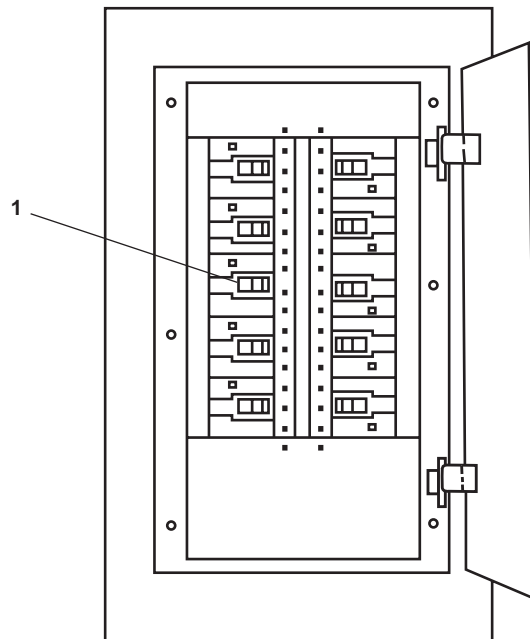

Figure 3. 440V Power Panel No. 4
3. At the 440V power panel No. 4, set the HOT POTABLE WATER RECIRCULATING PUMP. circuit breaker (figure 3, item 1) to OFF.